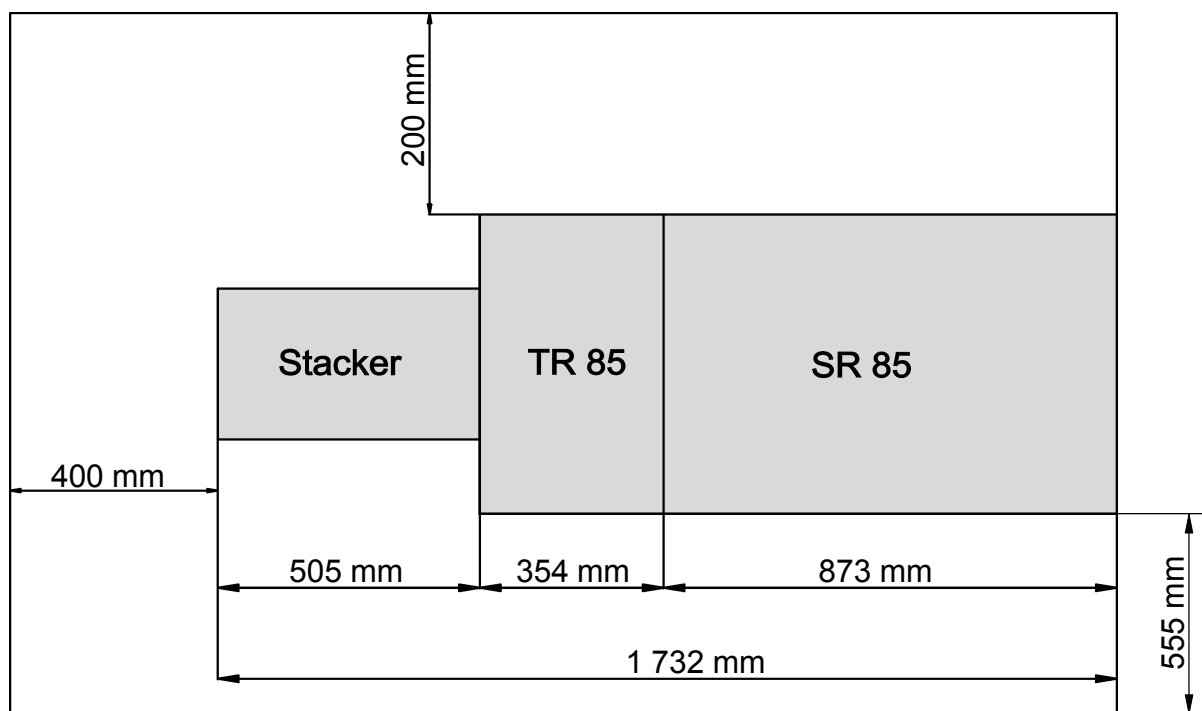

Figure 1
1. Ensure that the minimum required floor space is available for an installation of the Bookletmaker SR 85 including the Trimmer TR 85 as shown in figure 1.